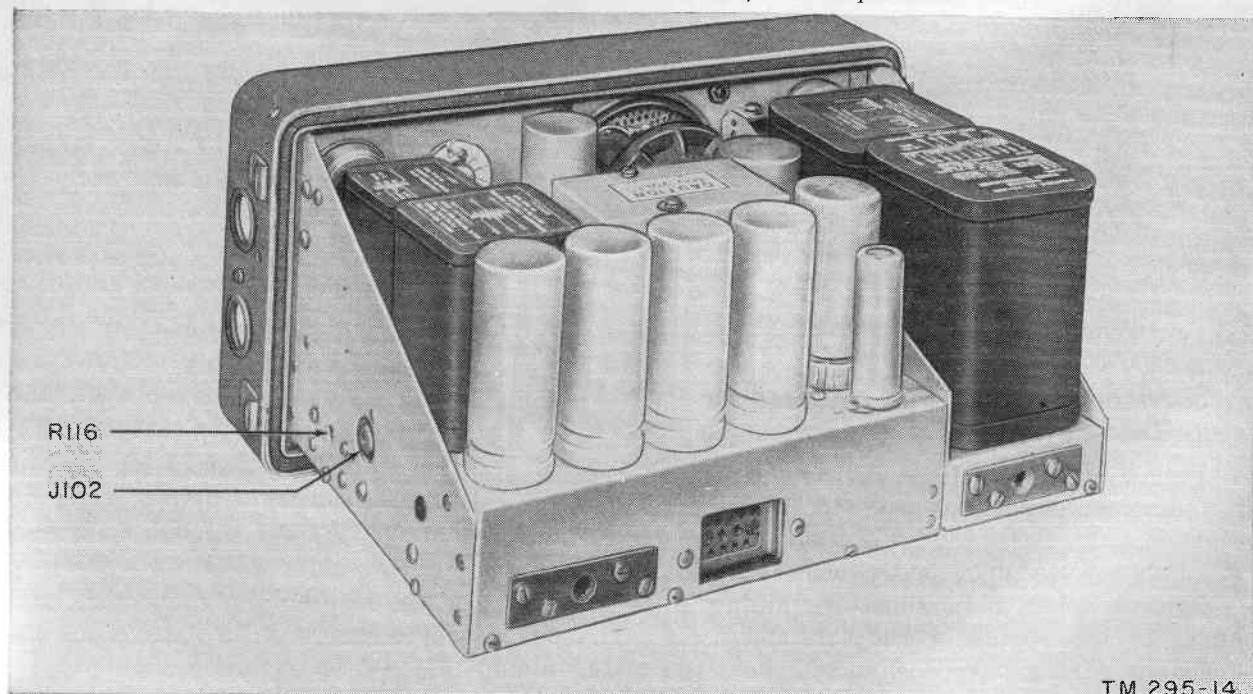

Figure 11. Power Supply PP-308/URR, rear oblique view.
d. Initial Adjustment. Turn POWER ON-OFF switch S103 to ON, and allow 5 minutes for warm-up time. Slide the power supply unit partially out of the cabinet (par. 13). Connect a 20,000-ohms-per-volt meter to the *filament voltage test point* (J102) on the right side of the power supply (fig. 11) and adjust the *filament voltage control* (R116) until the meter reads 1.4 volts dc. If the proper voltage cannot be obtained, refer to the equipment performance checklist (par. 43). Replace the power supply.
(figs. 11 and 13)
- If the equipment has not been used for one week or longer, connect a 20,000-ohm-per-volt meter to J102 on the power supply (fig. 11),
- If the equipment has not been used for a week or longer, connect a 20,000 ohms per-volt meter to J102 on the power supply (fig. 11), and adjust R116 for a reading of 1.4 volts (par. 15d).